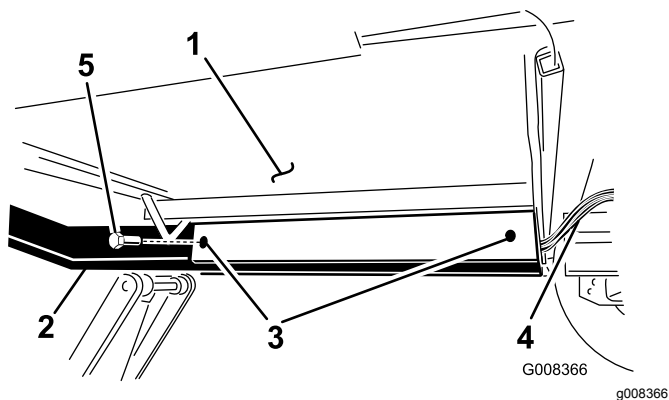

Figure 5
7. With the help of another person, install a bolt (5/8 x 3 inches) through the holes. Raise the front end of the tongue to align the front holes and use a bolt (5/8 x 3 inches) to hold the tongue in place (Figure 5).